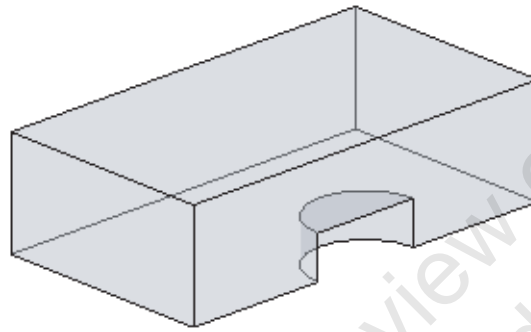

Figure 1–98
4. How do you cut a portion out of a conceptual mass element, as shown in Figure 1–98?